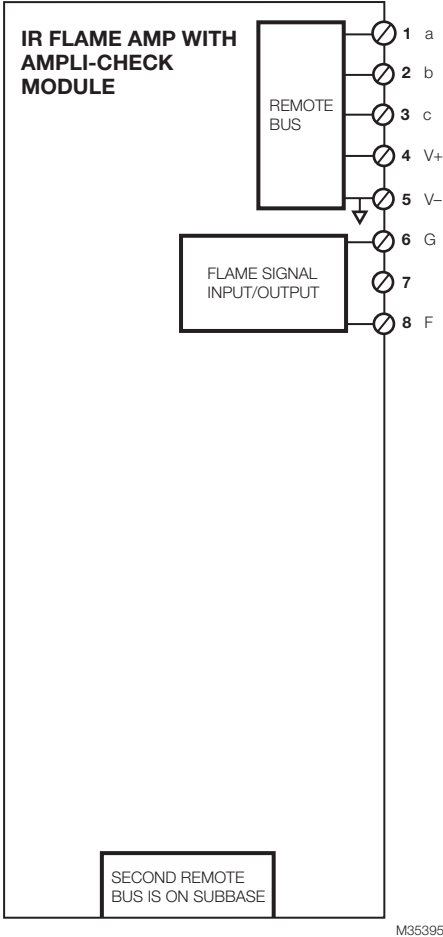

Fig. 4. R8001F1041 SLATE IR Ampli-Check Flame Amplifier wiring.
1. Refer to Fig. 4 for proper flame detector wiring.
- (1) Enclose scanner wiring without armor cable in metal cable or conduit.
- (2) Follow flame detector Instructions.
6. Check wiring, see Fig. 4.